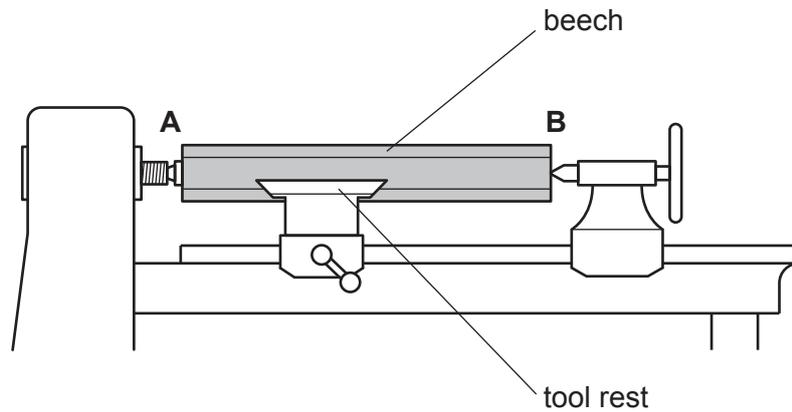

Fig. 11.3
Fig. 11.3 shows a length of beech ready to be turned on a woodturning lathe.
- (ii) A saw cut has been made in the end of the length of beech at **A** in Fig. 11.3.
- (iii) Candle wax is often applied to the end of the length of beech at **B** in Fig. 11.3.